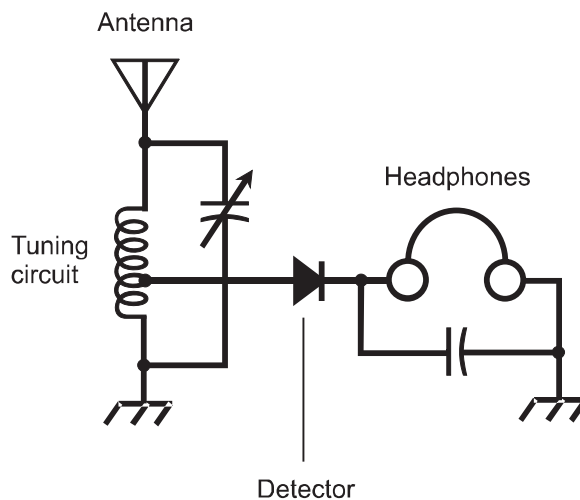

Fig. 5-5. A diode as an envelope detector in a crystal radio receiver.
One of the earliest diodes, existing even before vacuum tubes, was a semiconductor. Known as a *cat whisker*, it consisted of a fine piece of wire in contact with a small piece of the mineral substance *galena*. It acted as a *detector*, the equivalent of a rectifier for small RF currents. When the cat whisker was connected in a circuit like that of Fig. 5-5, the result was a *crystal radio receiver* capable of picking up amplitude-modulated (AM) radio signals. Using an RF diode, this circuit can still be used today. It works without any external source of power other than the signal itself.